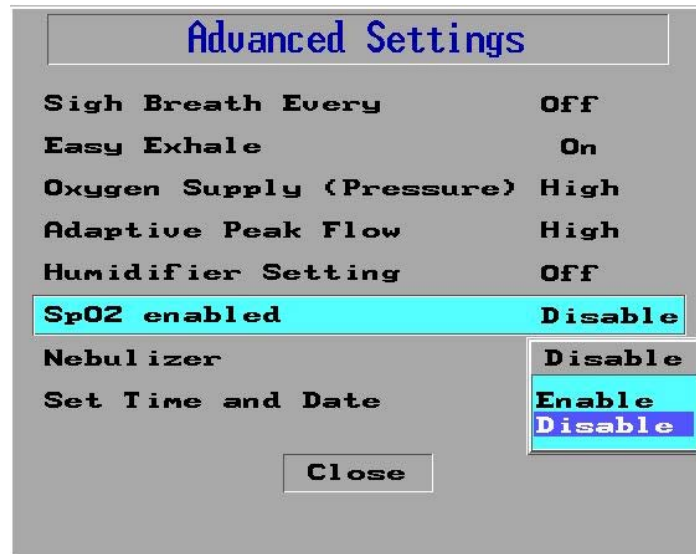

Figure 90: SpO2 Enabled Pop Up Window
3. Press the Control Knob. A pop-up window appears with the **Enable** and **Disable** options (Figure 90).